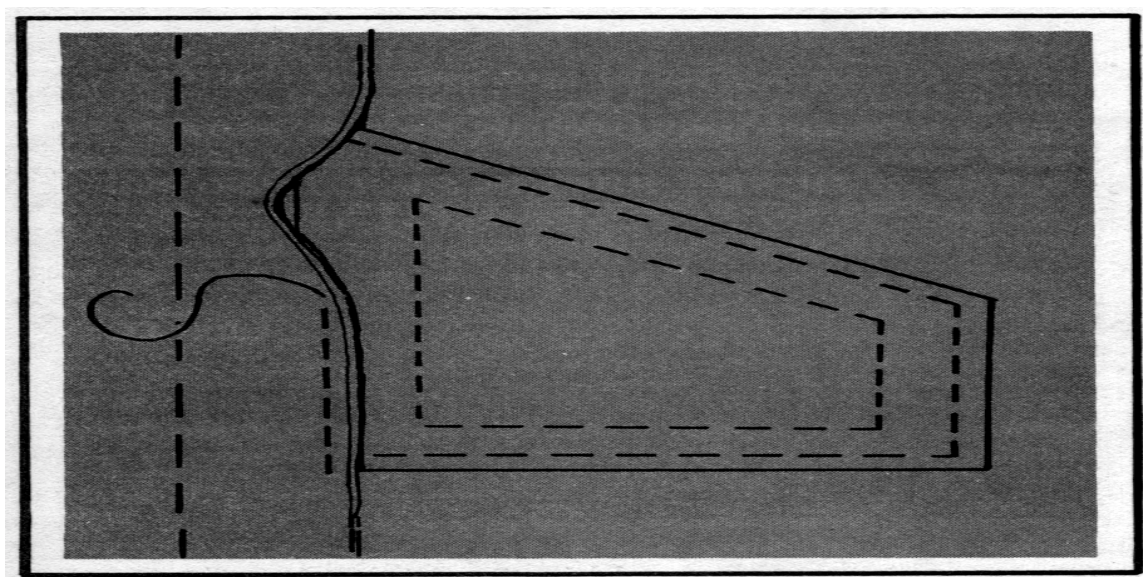

Figure 9-7. Under-seam patch
(1) Under-Seam Patch. An under-seam patch (Figure 9-7) is used to repair damage near a seam in a canvas item. An under-seam patch can be rectangular if it is used on a canvas item other than a tent. It can also be rectangular if it is sewn under an eave or on the ridge of a tent. All other under-seam patches on tents should be slanted at the top to shed water. To make an under-seam patch--